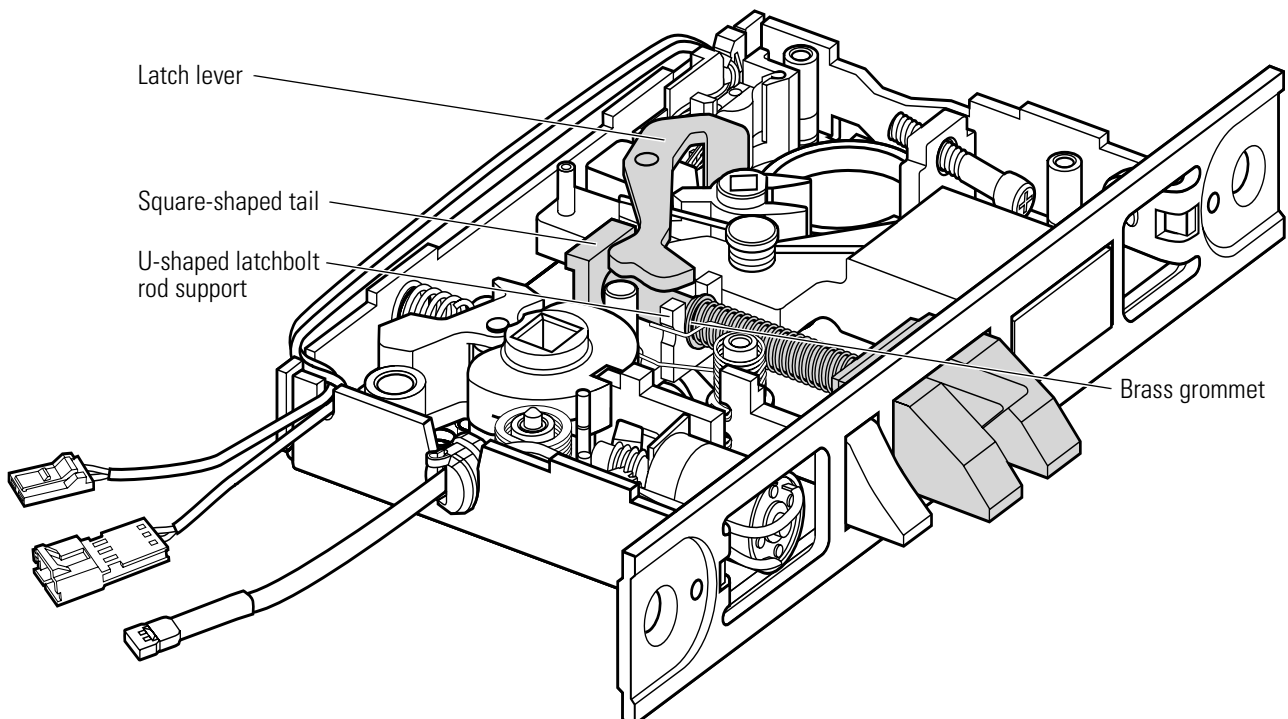

Figure 6.8 Turning over the latchbolt (FV function, LH case shown)
1. Remove the latch lever. See Figure 6.8
5. Reinstall the latch lever, as shown in Figure 6.8.